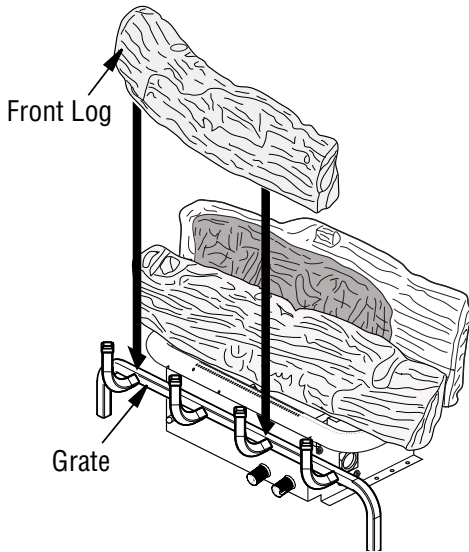

Figure 19 - Installing Front Log
- Place front log onto grate as shown in **Figure 19**. Front log has cut outs for the fingers of the grate to fit into.